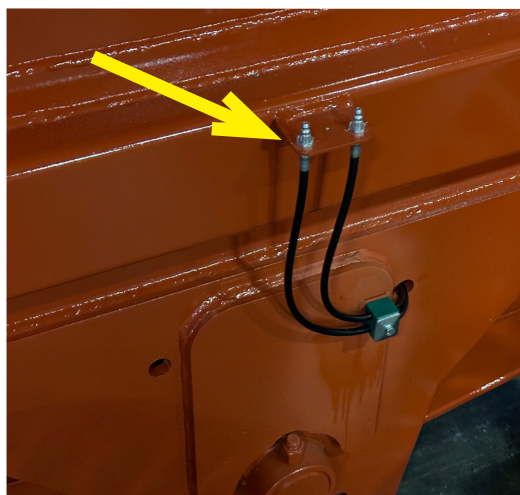

Figure 16: Grease Line Fittings for the Axle Walking Beam Bushings
- Lubricate walking beam pivots (figure 16).